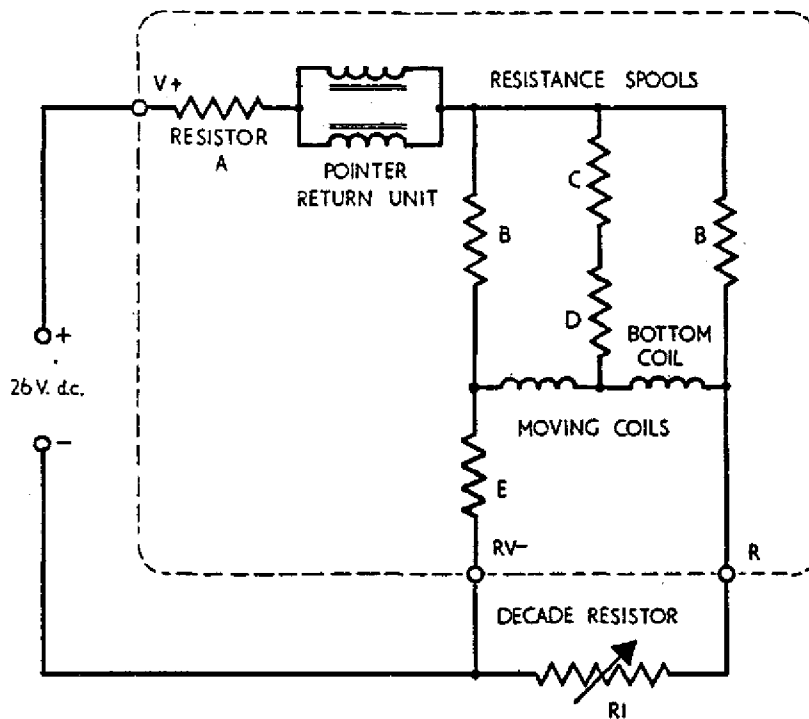

Fig. 10 Calibration circuit diagram
- (1) Connect the indicator into the circuit given in Fig. 10. The decade resistance box R1 is adjusted to simulate changes in the resistance of the resistance bulb.
- (2) If scale end indications are incorrect after overhaul, adjust spools C and E as detailed in paragraph 8 (Testing) of the main section of this manual.
- (3) If necessary, recalibrate the indicator using the values given in the accompanying table.